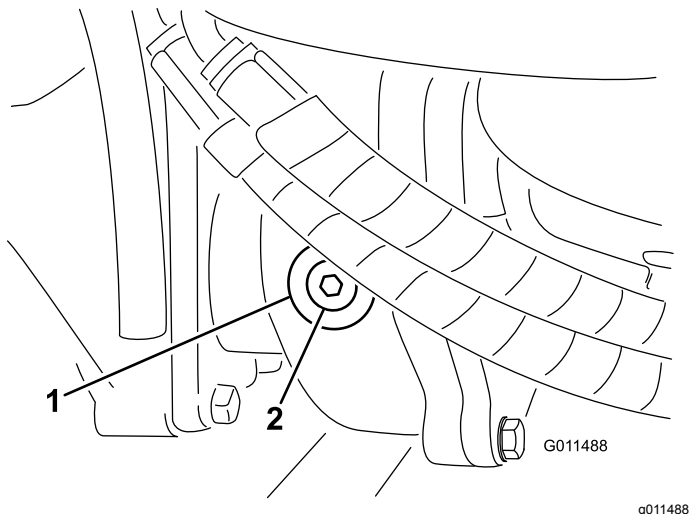

Figure 93
2. Remove the check/fill plug from the left side of the gearbox and ensure that lubricant is up to the bottom of the hole (Figure 93).